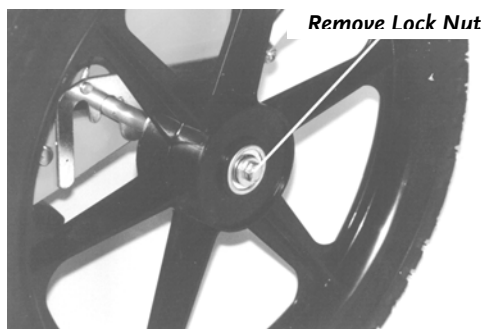

Figure 33
2. Loosen and remove the Lock Nut. (**Figure 33**).